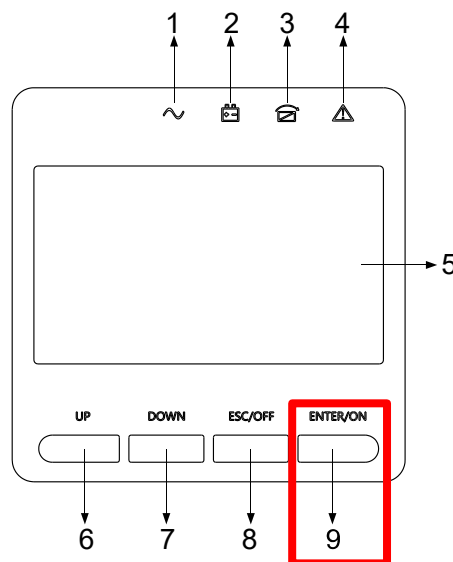

Fig. 4-3 Cold Start button
- Trigger the cold start buttons at the position 9 in Fig. 4-3.